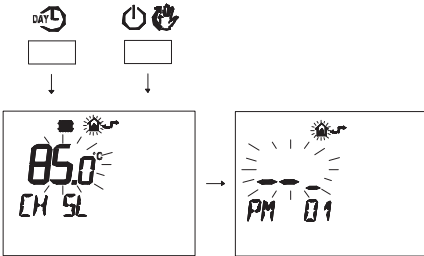

Fig. 7.29
- Press buttons **DAYL** and **POWER** at the same time to enter transparent programming (Fig. 7.29).